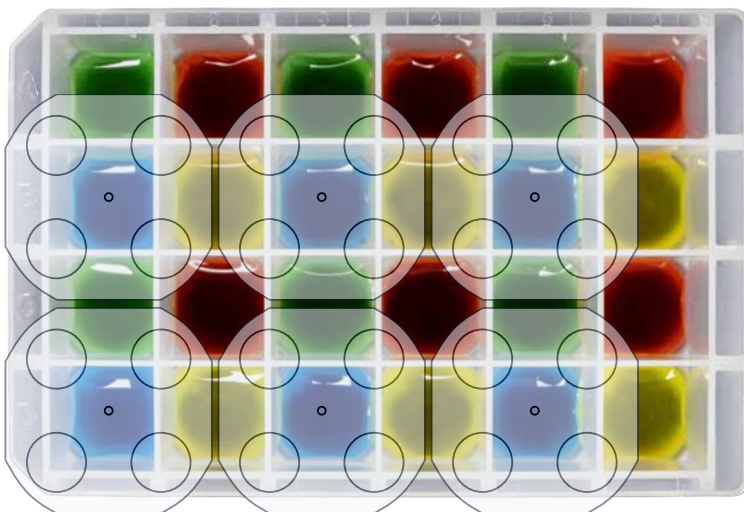

Figure 7 – Top-down view of Mammoth 30mL Automation Tip depicting -8.5mm X/Y offset as it appears for the Thomson 6-well Plate and 24-Well Plate.
1. In the Plate Layout tab, enter the correct offset values for 6-well plates (Figure 8 upper) or 24-well plates (Figure 7 lower). Starting reference values (in mm) are also summarized in Table 3.